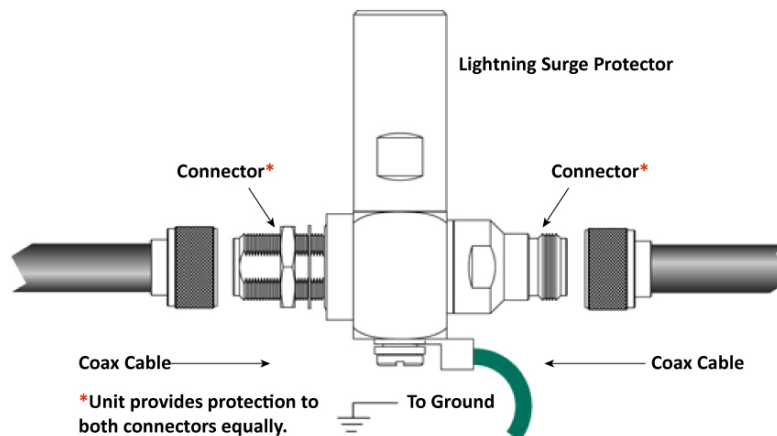
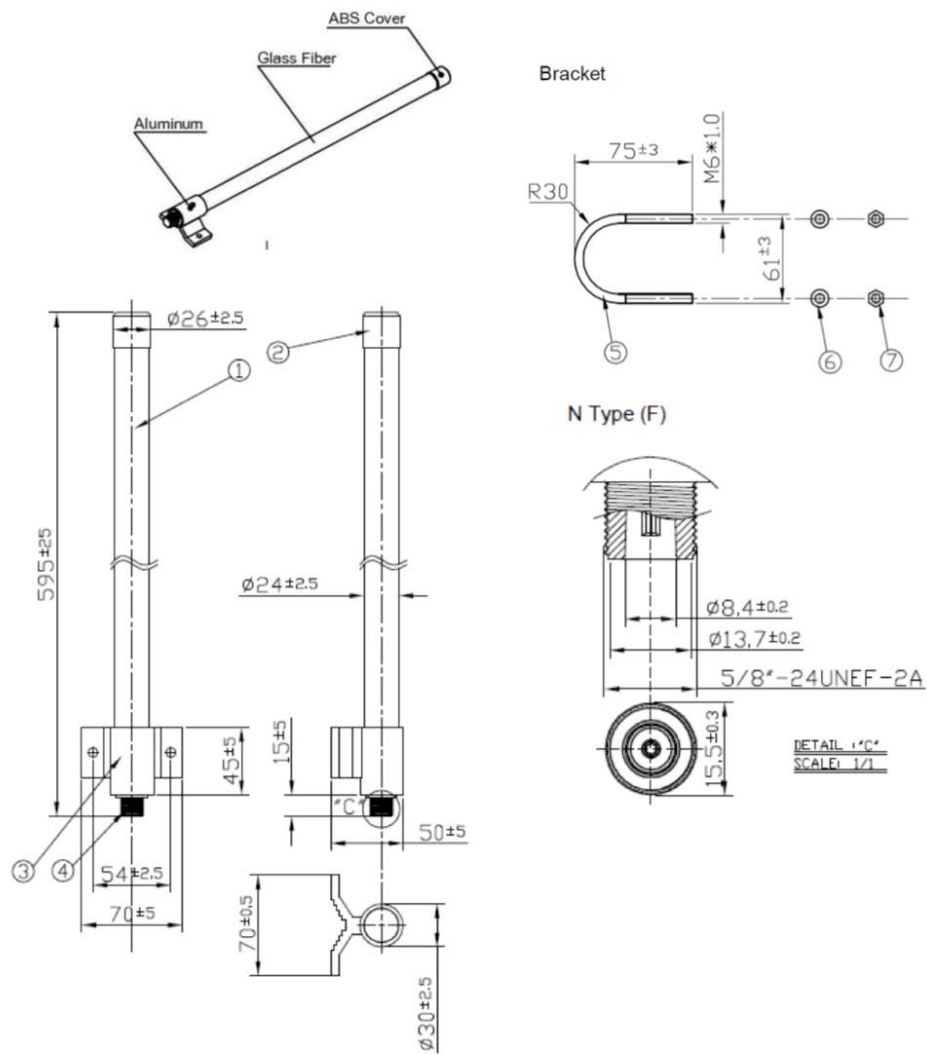

Figure 3: Lightning Surge Arrestor
Figure 4: 866/915 MHz Antenna Mounting
- Step 2** Make sure antenna-mounting bracket should be properly grounded through lightning arrestor as shown in Figure 3 and Figure 4.